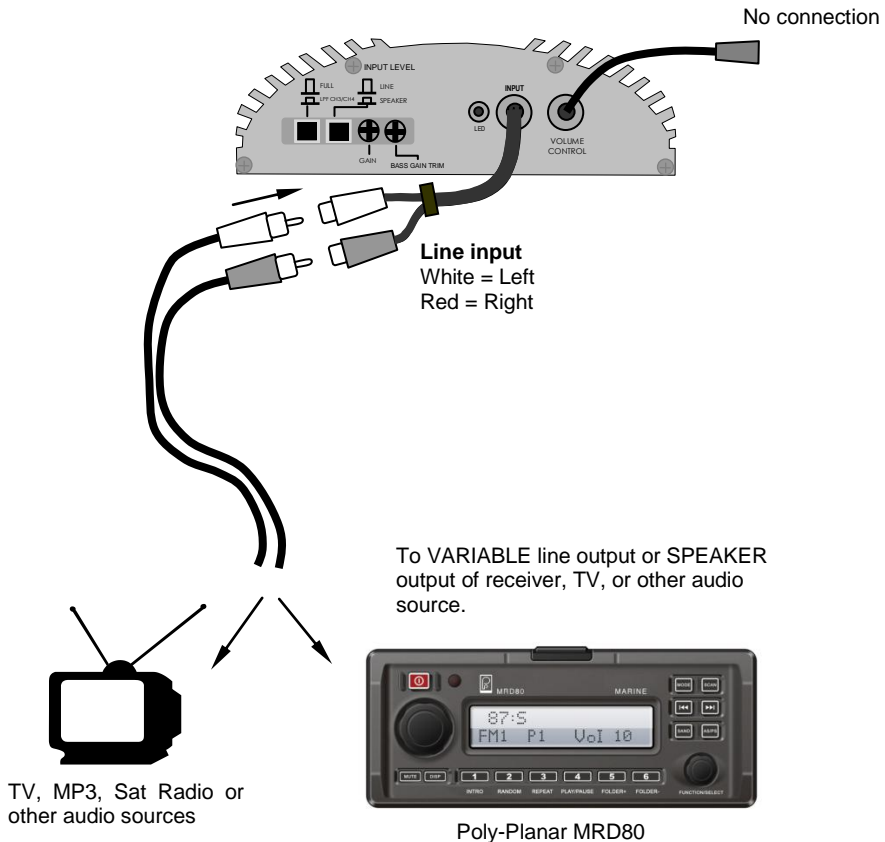
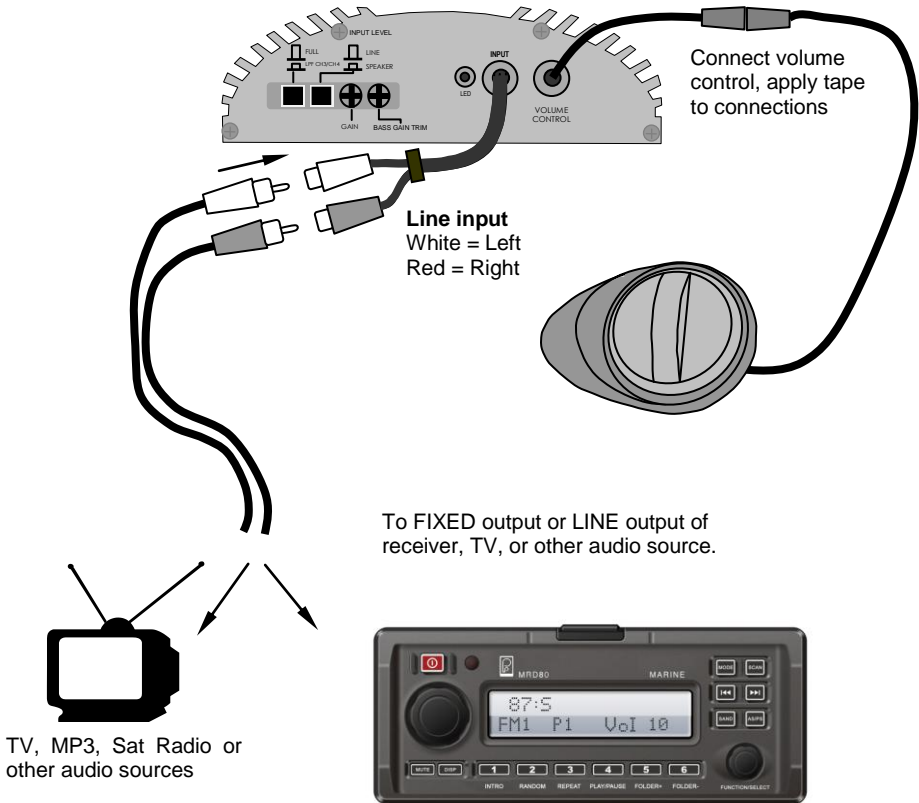

Figure 4 - Input connections without Volume control
Figure 5 - Input connections with Volume control
- 10) The GAIN control adjusts the overall level of the amplifier. The Bass Gain Trim adjusts the bass level output of channels 3 and 4 when the LPF (as in Figure 4) switch is depressed. When using the amplifier without volume control (as in Figure 4) the Gain level should be set to achieve a balance with other loudspeakers in the system. As a rule, keep the gain setting as low as possible while still insuring that the system will reach full output power. When using the system with external volume control (as in Figure 5), set the external Volume Control to FULL (clockwise) and adjust the gain on the amplifier until full output power is reached. Full output power level can be determined by turning the gain control clockwise until the apparent loudness does not appear to increase any more. Leave the control at the setting where this begins to become apparent.